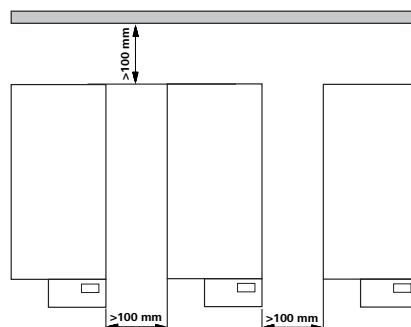

Fig. 2
- Observe the minimum distances between the devices, between device and wall and minimum distances (min. 800 mm) above the assembly, see Fig. 2.